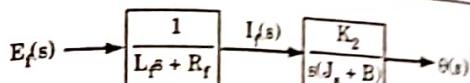

Fig. 3.24.2.
8. Block diagram is shown in Fig. 3.24.2.